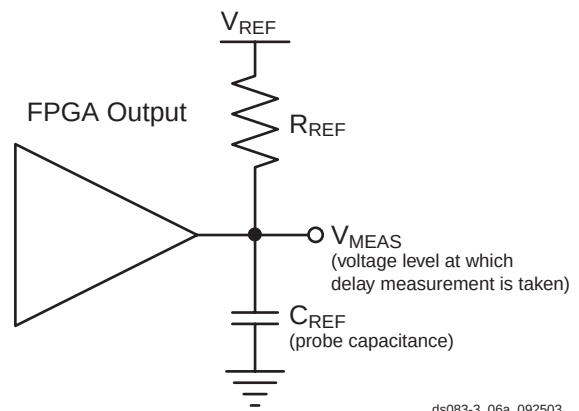

Figure 6: Generalized Test Setup
- Note that this is an input voltage reference that bears no relation to the V_{REF} / V_{MEAS} parameters found in IBIS models and/or noted in Figure 6.
Output delays are measured using a Tektronix P6245 TDS500/600 probe (< 1 pF) across approximately 4" of FR4 microstrip trace. Standard termination was used for all testing. (See Virtex-II Pro User Guide for details.) The propagation delay of the 4" trace is characterized separately and subtracted from the final measurement, and is therefore not included in the generalized test setup shown in Figure 6.